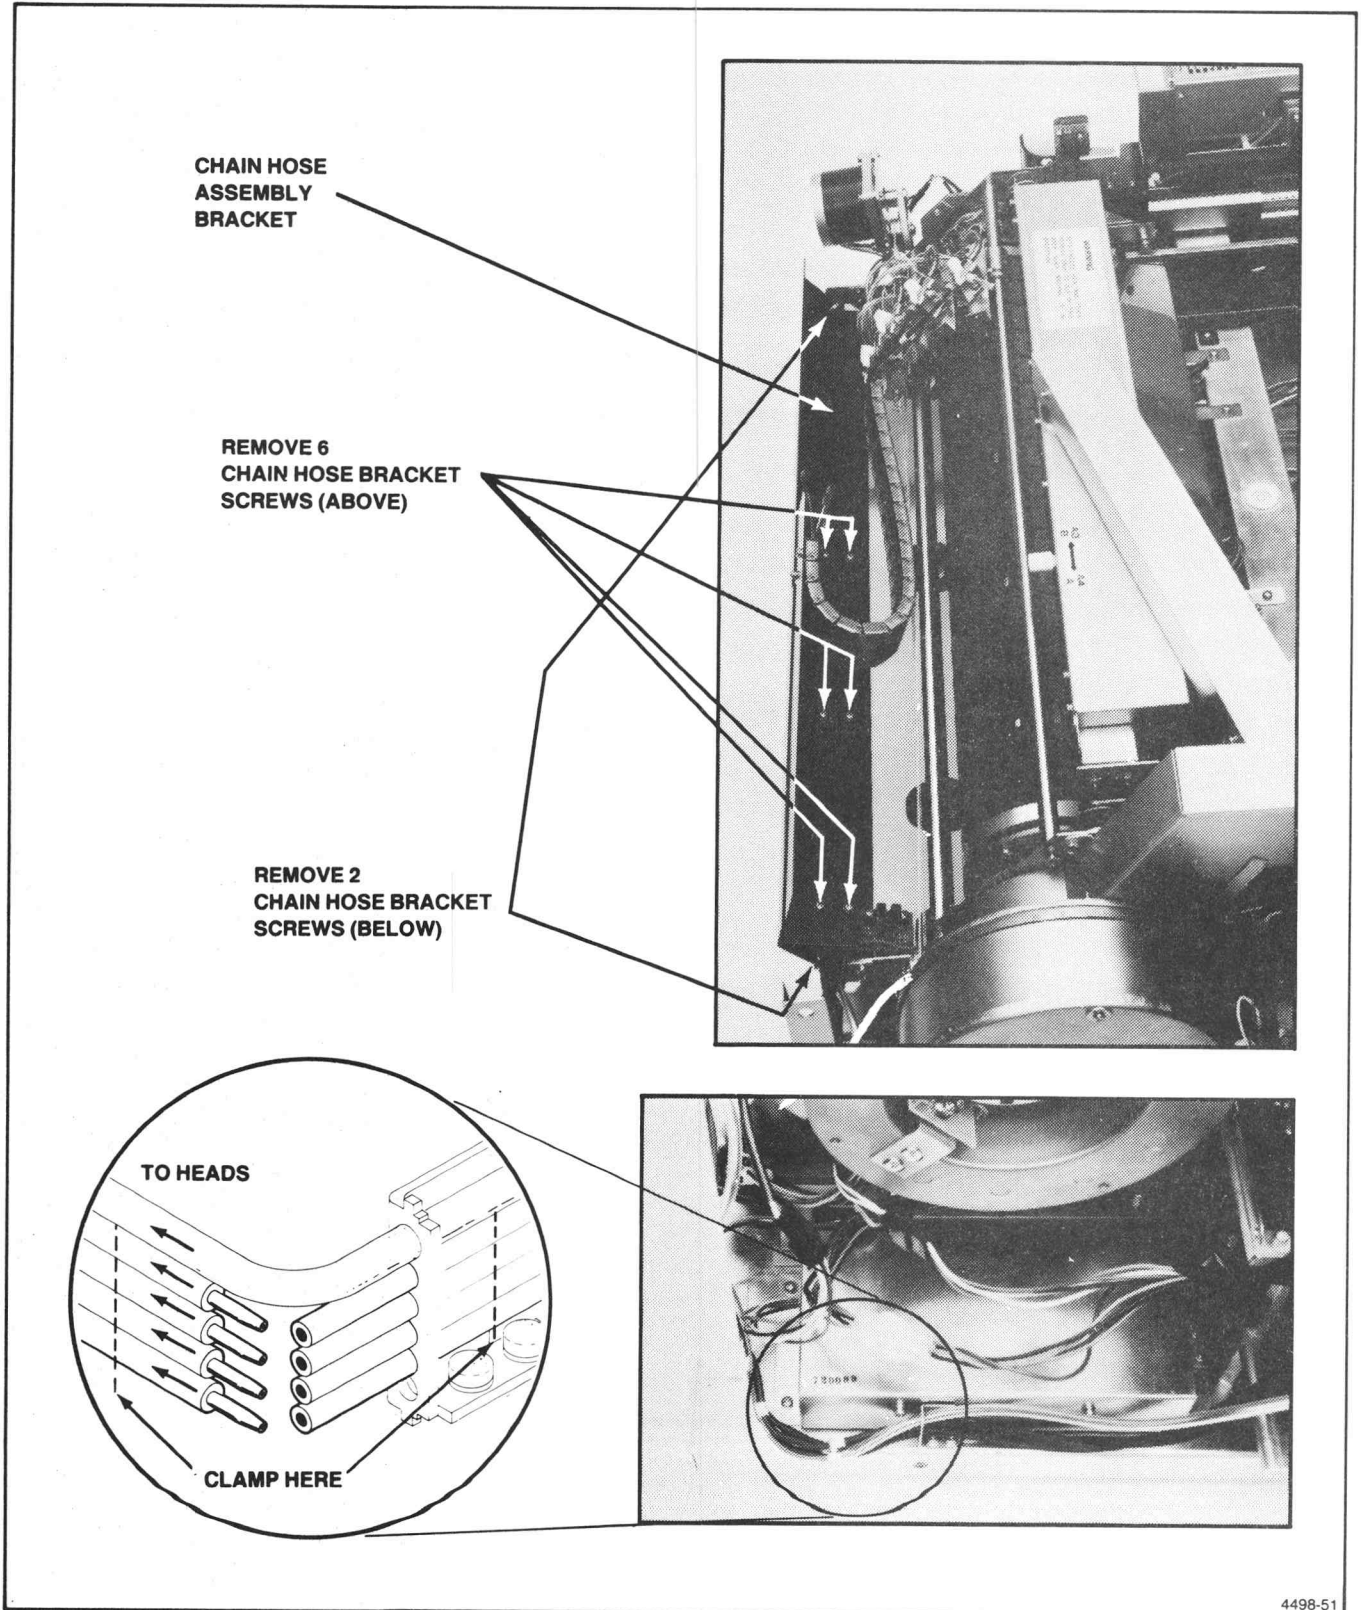

Figure 7-12. Chain Hose Assembly Removal.
4. Remove the eight screws that hold the ink lines to the underside of the chain hose bracket. See Figure 7-12.
- b. At the ink line splices located near the head driver amplifier. See Figure 7.12 for the location of these splices.
5. Remove the eight screws that hold the ink lines to the underside of the chain hose bracket. See Figure 7-12.
2. Remove the chain hose bracket. See Figure 7-12.